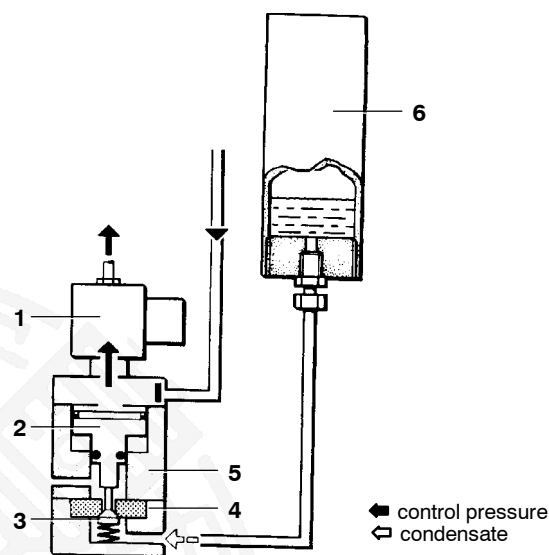

Fig. 14 Normal operation
(See Fig. 14). The condensate drain valve (5) is operated pneumatically via a normally closed 3-way solenoid valve (1) by an electrical signal.